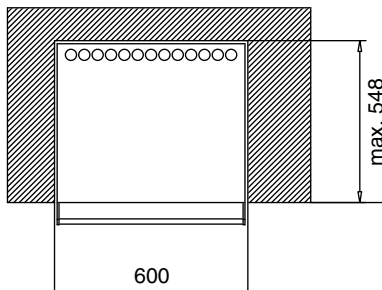

Fig. 2B
2. When the door is opened the appliance takes up more room in the width and therefore the door must either be placed outside the cupboard or there must be a space of at least 1,5 cm at the hinge side. - Fig. 2b and 2c, page 6.